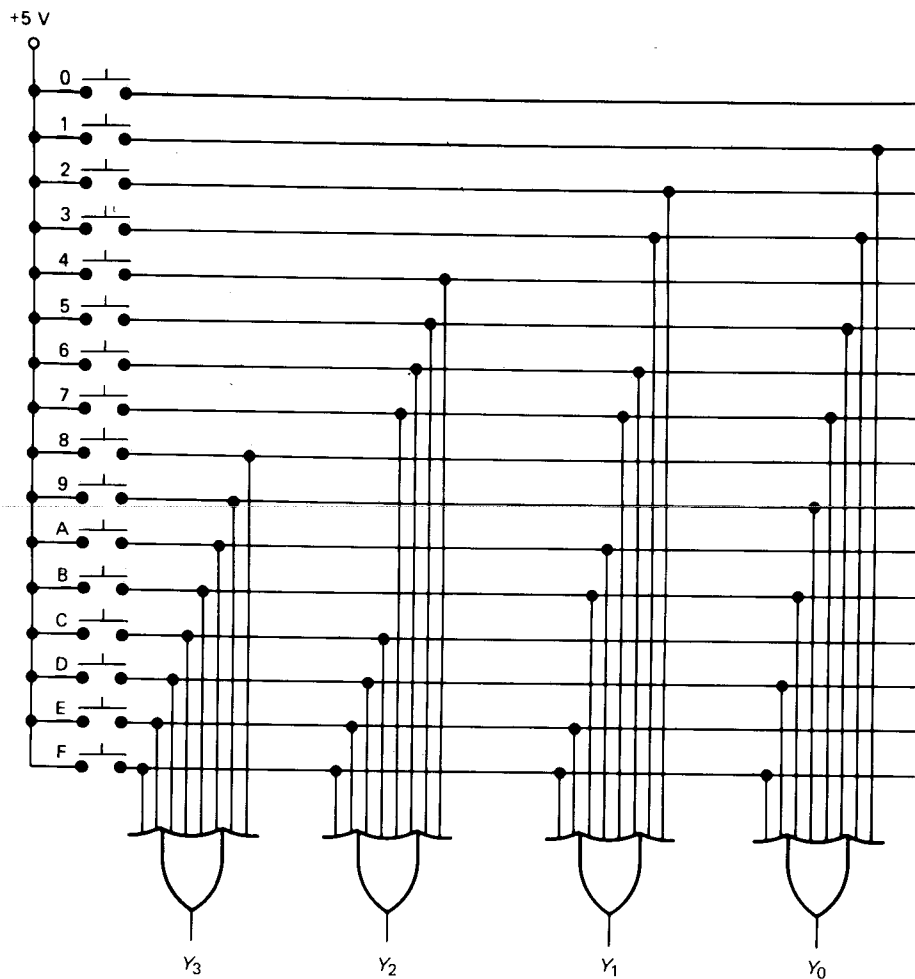

Fig. 2-18 Hexadecimal encoder.
- 2-6. Figure 2-18 shows a hexadecimal encoder, a circuit that converts hexadecimal to binary. Pressing each push-button switch results in a different output word  $Y_3Y_2Y_1Y_0$ . Starting with switch 0, what are the output words? (NOTE: The new symbol in Fig. 2-18 is another way to draw an OR gate.)
- 2-7. In Fig. 2-18 what switches would you press to produce
- 2-8. What is the 4-bit output in Fig. 2-18 when switch A is pressed? Switch 4? Switch E? Switch 6?